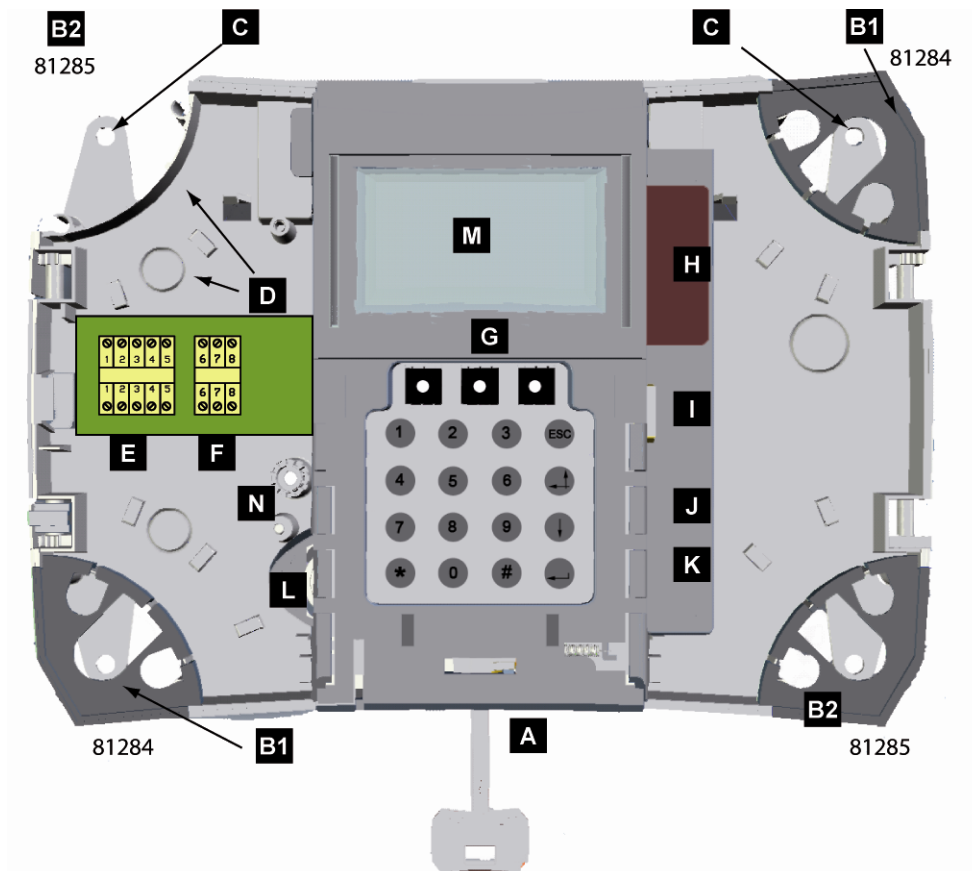

Fig. 1 SR34i overview. See next page for a more detailed information
- Special corner elements are designed to be removed but then again hiding and sealing the cable entry when re-fixed again. Also ideal when mounting via trunking-list. See figure 1.